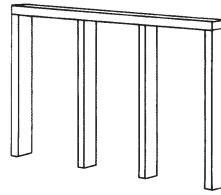

Fig. 9-36 Assembling the cripples for easy placement. (Andersen.)
5. Measure the rough opening height from the bottom of the header to the top of the rough sill. Cut 2- × 4-inch cripples and the rough sill to the proper length (Fig. 9-36). The rough sill length is equal to the rough opening width of the window.